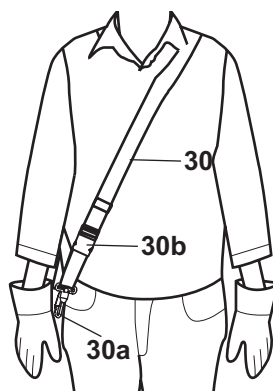
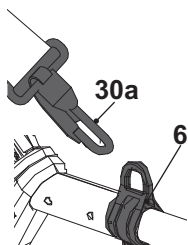

Fig. 20
Fig. 21
1. Place the harness (30) so that it runs over the left shoulder, crossing the chest and back. The securing clip (30a) must be located at the right hip. The quick release (30b) must be in front (Fig. 20).
2. Adjust the length of the harness (30) so that the securing clip (30a) is approximately 15 cm below your waist.
3. Attach the securing clip (30a) to the loop (6) (Fig. 21).